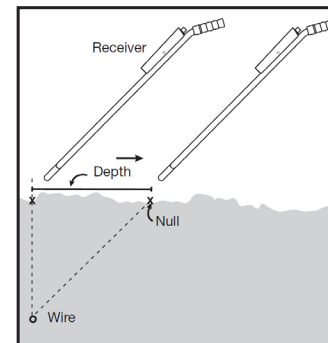

FIGURE 5: Determining Depth
- To more accurately define the location of an open or larger nick (ground fault), position the receiver tip on the ground near the point where the last strong signal was detected along the side of the path. The receiver tip should be pointing at the ground and be approximately 6 inches to either side from the null. Because you are so much closer to the path, the sensitivity knob must be adjusted down until the meter reads just below 10. (Refer to Figure 5)
To determine the depth of the wire, first mark the ground directly over the path. Turn the receiver sideways to the path, and tip it 45 degrees. Move the receiver away from the path, maintaining the 45 degree tip until a null is detected. Mark this spot. The depth is the distance between the two marks. (Refer to Figure 5)